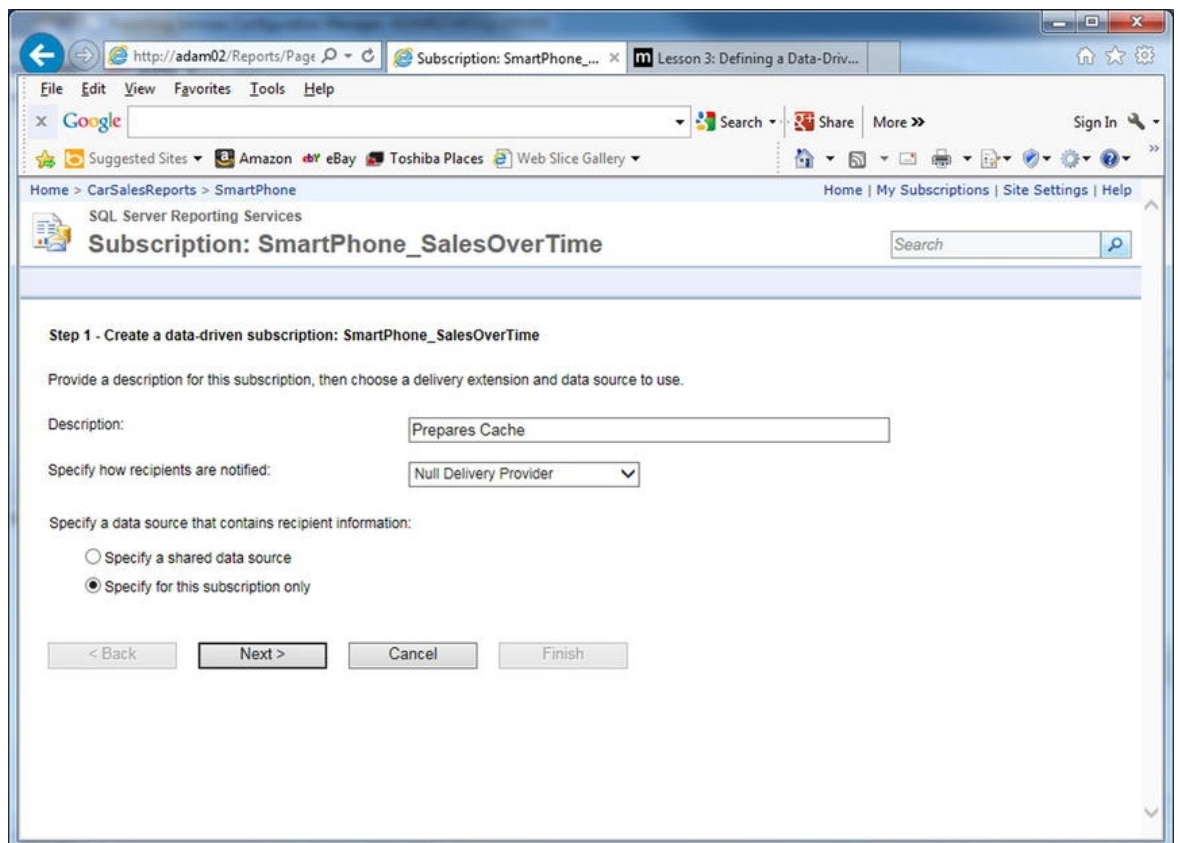

Figure 12-16. *Creating a data-driven subscription*
2. Enter a description for this data-driven subscription and select Null Delivery Provider from the pop-up list specifying how recipients are notified. The browser window will look like Figure 12-16.